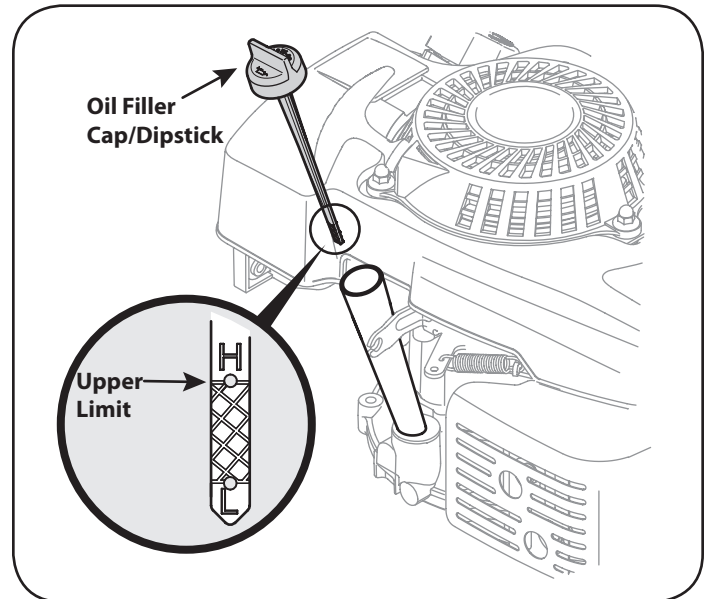

Figure 13
3. Remove dipstick. If the level is low, slowly add oil to the upper limit on the dipstick. See Figure 13 inset.